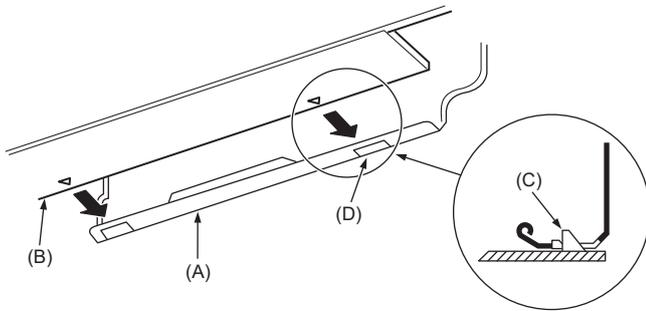

Fig. 3-15
3. While inserting the refrigerant piping and drain hose into the wall penetration hole (penetration sleeve), hang the top of the indoor unit to the mount board (1).
5. Fasten by pushing the bottom part of the indoor unit onto the mount board (1). (Fig. 3-15)
- \* Check that the knobs on the bottom of the indoor unit are securely hooked into the mount board (1).
- (A) Mount board (1)